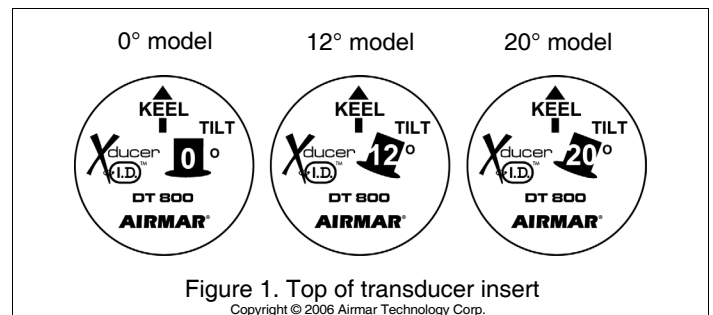
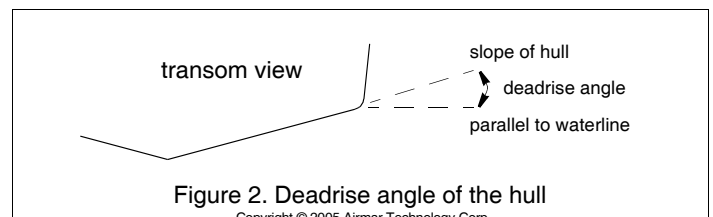

Figure 1. Top of transducer insert
Figure 2. Deadrise angle of the hull
Be sure your transducer model matches the deadrise angle of your boat at the mounting location. See the top of the transducer insert for the tilt angle (see Figure 1). To measure the deadrise angle of your hull at the selected mounting location, use an angle finder or a digital level (see Figure 2).
6. **Slide the insert into the housing with the arrow on the top pointing toward the KEEL or centerline of the boat** (see Figure 1). Be sure the insert is fully inserted.